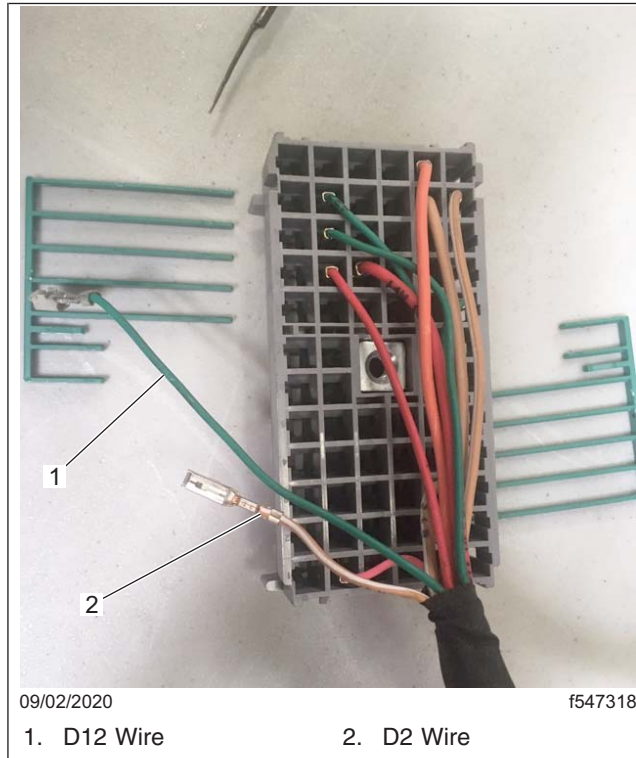

Fig. 5, Terminal Locks Removed from the J5 Connector
9. Remove the green terminal locks from the J5 connector. See Fig. 5.
16. Install the green terminal locks in the J5 connector. See Fig. 5.